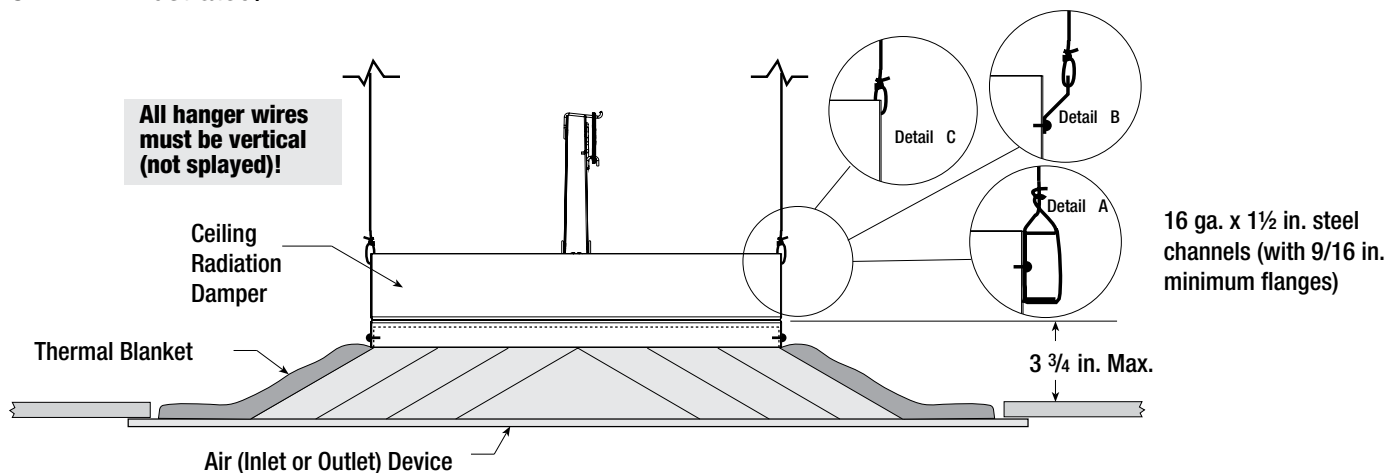

Figure 10
1. Ceiling radiation damper may be connected directly to the air device neck and supported by steel channel (See Detail A, Figure 10).
2. Ceiling radiation damper may be connected directly to the air device neck and supported by hanger straps (See Detail B, Figure 10).
3. Ceiling radiation damper may be connected directly to the air device neck and supported by direct suspension with wires looped through holes in the damper frame before tying (See Detail C, Figure 10).
Models CRD-1, CRD-1LP, CRD-2, and CRD-60 may be installed as shown in **Figure 10** (Model CRD-1 & CRD-1LP Illustrated).